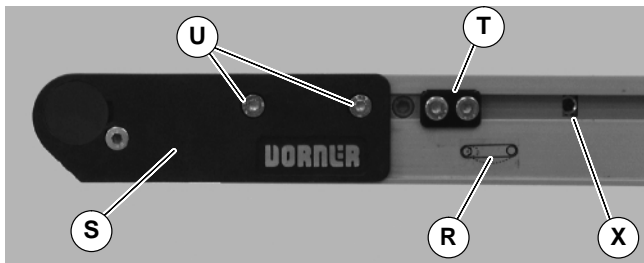

Figure 25
1. On tension end of the conveyor, identified with a  label (R of Figure 25), adjust head plate assembly (S): On both sides of conveyor, loosen fastening screws (U) and rotate pinion gear (X) to adjust head plate assembly.
3. After adjusting proper tensioning, tighten fastening screws (U of Figure 25) on both sides of conveyor to 60 in-lb (7 Nm).
4. If equipped with cam tracking assemblies (T of Figure 25), position against head plates and adjust belt tracking. Refer to "Conveyor Belt Tracking" on page 12.